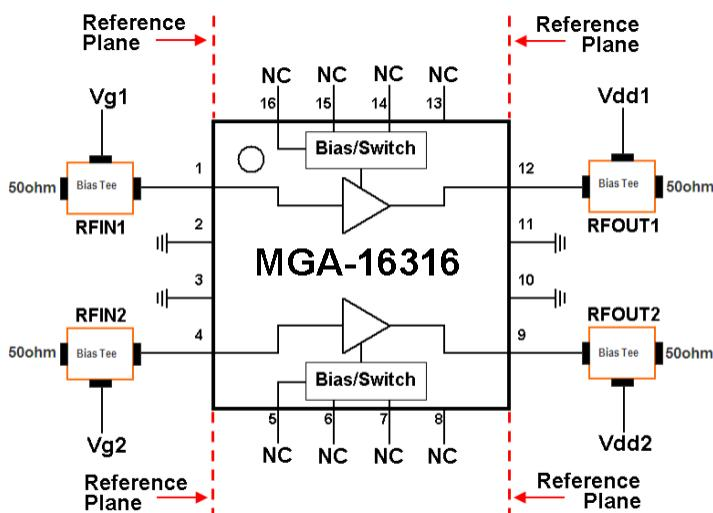

Figure 7. RFinput and RFoutput Reference Plane
2. Idd can be obtained by varying the Vg1/Vg2. Refer to figure 7.
- Scattering and noise parameters are measured on coplanar waveguide made on 0.010 inch thick ROGER 4350. The input reference plane is at the end of the RFinput pin and the output reference plane is at the end of the RFoutput pin as shown in Figure 7.
- Idd can be obtained by varying the Vg1/Vg2. Refer to figure 7.